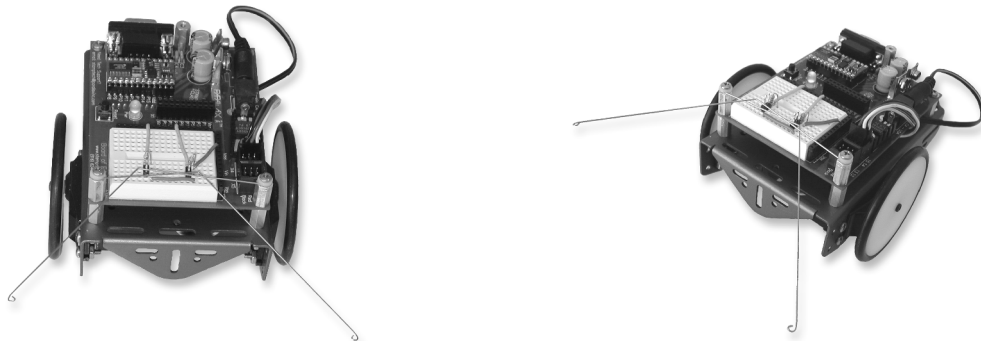
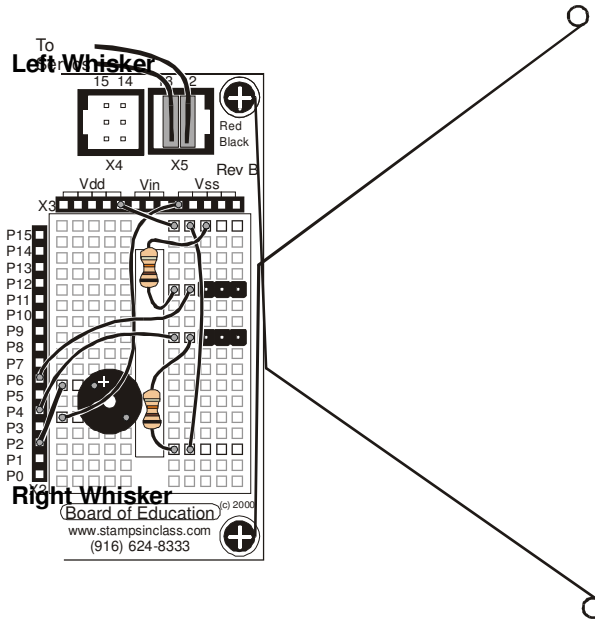

Figure 5.2: Pictures of J-Bot with Whiskers
Figure 5.3: Whiskers wiring diagram.
Your #1 point Phillips screwdriver and quarter-inch combination wrench will come in handy here. Before getting started on whisker construction, take a close look at Figure 5.2. Use these pictures as a guide while constructing the mechanical part of the Whiskers kit. Figure 5.3 shows the whiskers wiring diagram. Follow it for making the necessary electrical connections.
- ❑ Check Figure 5.3 so you know which whisker is the “left whisker” and which whisker is the “right whisker”.